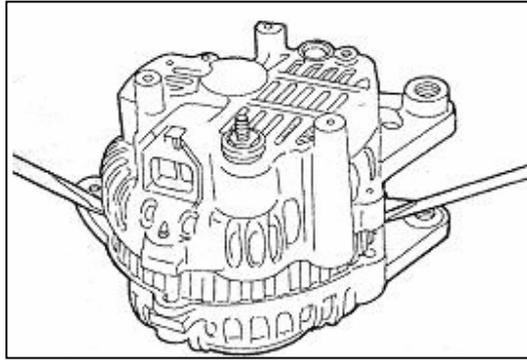

Fig. 9-34
(1) Front bracket assembly Removal (see Fig. 9-34)